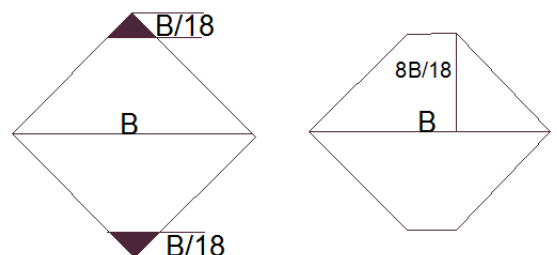

Fig.15
- We can increase the moment of resistance by cutting upper and lower part of square section with the diagonal in the plane of bending as shown in Fig.15.